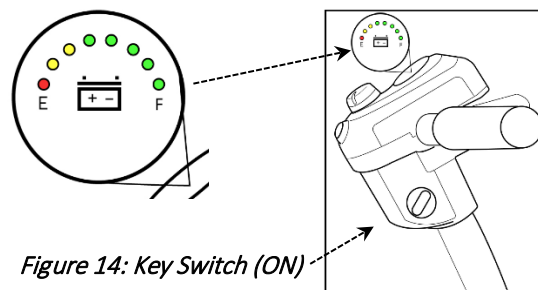

Figure 14: Key Switch (ON)
4. Turn the key clockwise to the “ON” position. See *Figure 14 on page 22*.